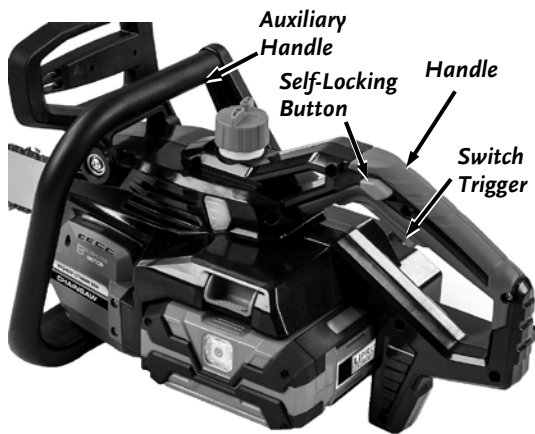

Figure 14
4. Press the Switch Trigger Self-Locking Button in with your thumb and squeeze the Switch Trigger with your fingers (**Figure 14**). Once the Motor starts, you can remove your thumb from the Self-locking Button. If the Motor does not start, check the Battery connection and Power Status.